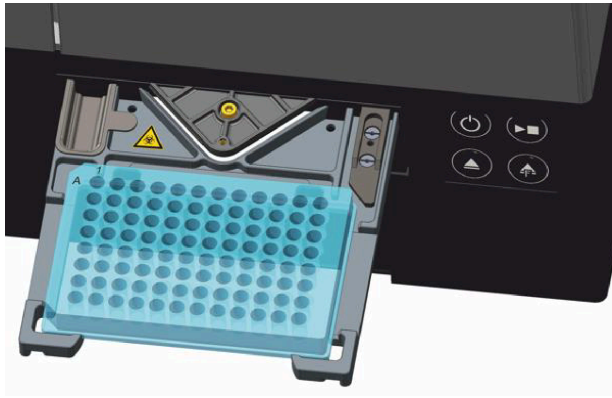

Figure 4. Correct position of the plate.
- The A1 corner must be onto the upper left corner (see Figure 4). Align the plate on the left.